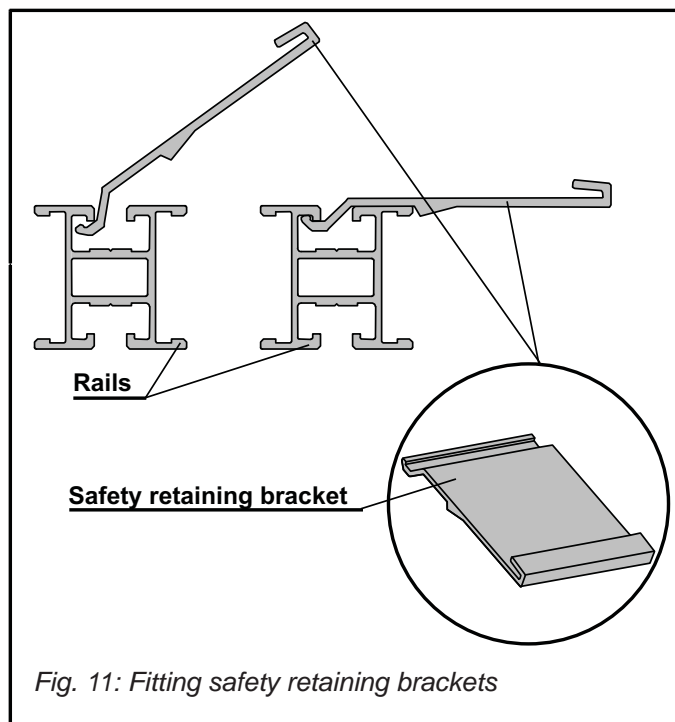

Fig. 11: Fitting safety retaining brackets
- Insert safety retaining brackets (Fig. 11) into the bottom rail, 2 brackets per collector.